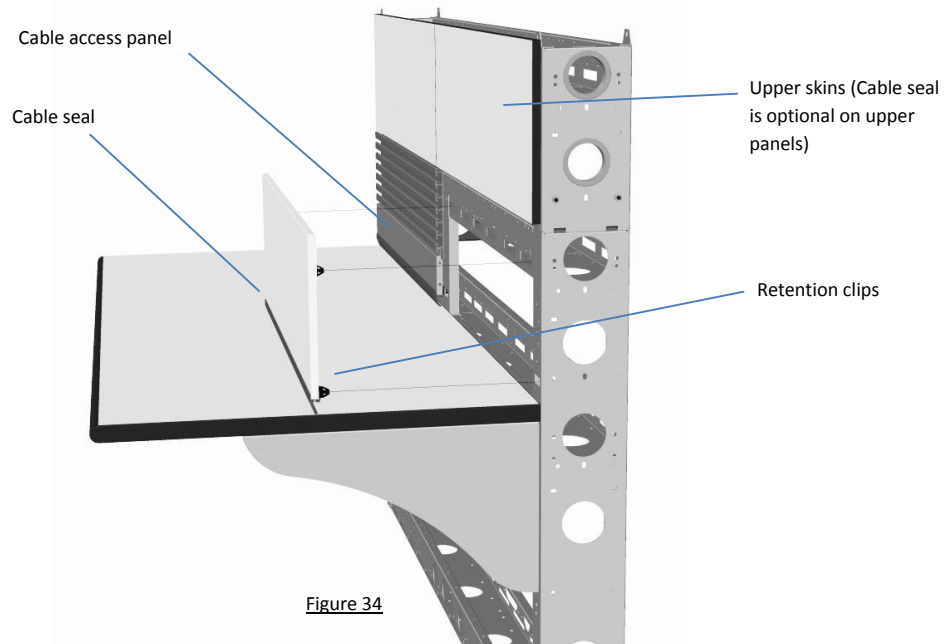
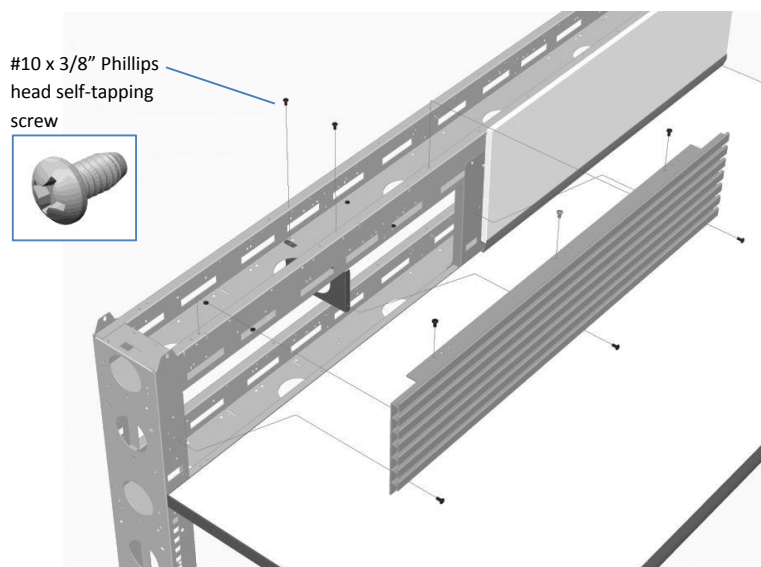

Figure 34
Figure 35
Attach the slat wall panel to the face of the core wall with #10 x 3/8" Phillips head self-tapping screws. The quantity of screws will vary depending on the slat wall size. The slat wall panel may have extra holes to suit varying applications. Depending on the slat wall length, one or more a slat wall support plates may be required. Engage the tabs on the plate into the slots in the horizontal member of the core and secure the plate with (2) #10 x 3/8" Phillips head self-tapping screws. See figures 35 and 36. A removable cable access panel is supplied to finish off the space below the slat wall (see figure 34).